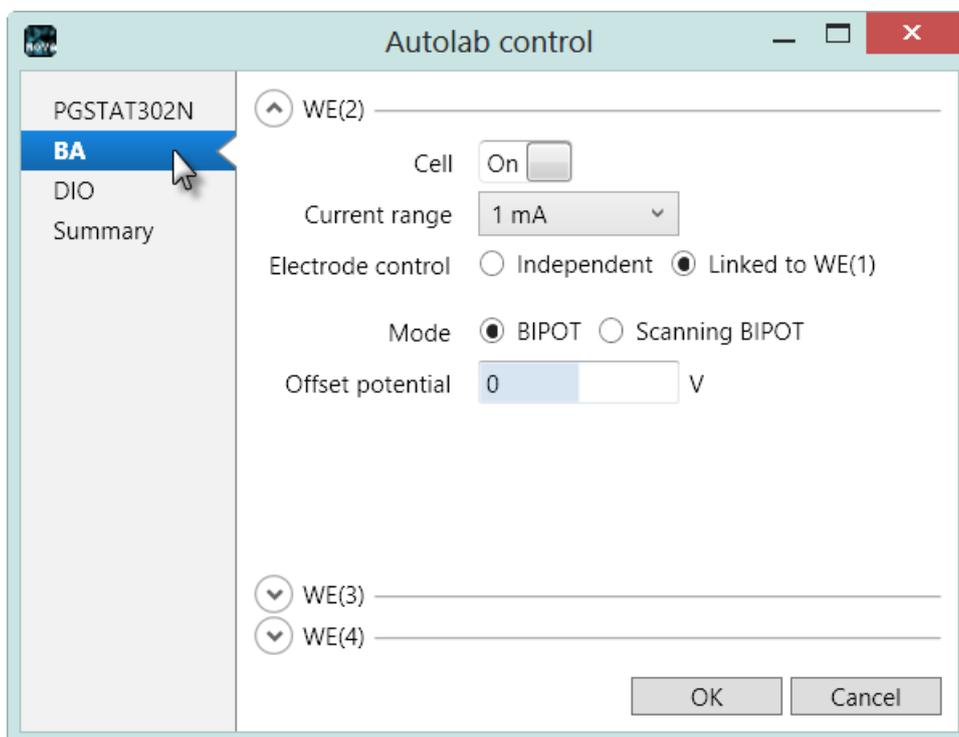

Figure 6 – The WE(X) properties are set in the Autolab control command
All the settings of the available WE(X) can be defined using the *Autolab control* command (see Figure 6). The settings for each WE are listed in BA section of the Autolab control window. Only the electrodes specified in the hardware setup are listed in the Autolab control window (see Figure 6).